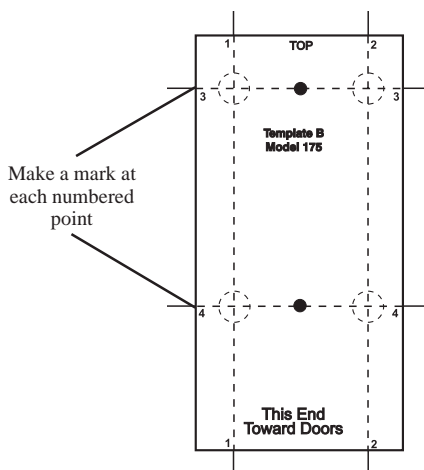

Figure 17 - Marking the Outline of Template B
4. Draw an outline of Template **B**. Mark the floor at each point indicated by the numbers 1, 2, 3, and 4 (Figure 17).